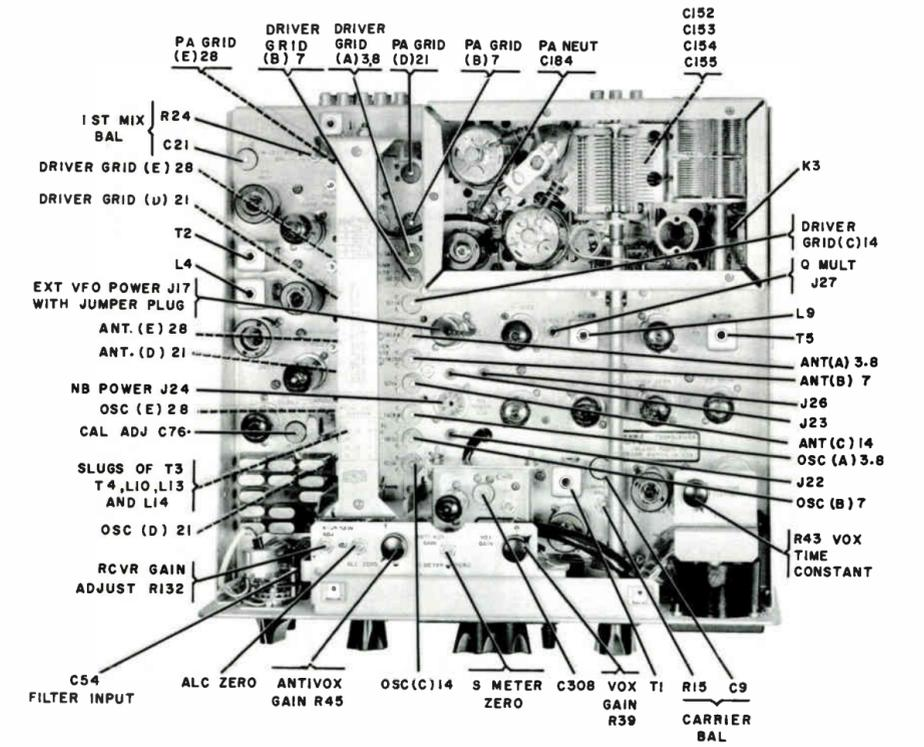

Figure 4-1. Location of Adjustments
Field alignment consists of a few simple adjustments and is intended as a means of restoring peak performance of a working KWM-2/2A. No alignment procedure should ever be performed just for the sake of alignment. Adjustments should be made only when there is reason to suspect that performance is not up to standard. All field alignment adjustment points can be reached by raising the cabinet lid, and the KWM-2/2A does not have to be removed from its cabinet. See figure 4-1 for adjustment locations.
b. After 5-minute warmup period, set EMISSION switch to TUNE and meter switch to GRID. Adjust MIC GAIN and EXCITER TUNING to produce mid-scale indication on meter. Set meter switch to PLATE, and dip plate current with P.A. TUNING. Reset meter switch to GRID. Peak the four (E)28 trimmer capacitors for maximum grid current. See figure 4-1 for trimmer locations.
c. Set BAND switch to 21.2 and tuning dial to 100. Adjust MIC GAIN and EXCITER TUNING for midscale grid current. Set meter switch to PLATE, and dip plate current. Reset meter switch to GRID. Peak the four (D)21 trimmer capacitors for maximum grid current.
d. Set BAND switch to 14.0 and tuning dial to 150. Adjust MIC GAIN and EXCITER TUNING for mid-scale grid current. Set meter switch to PLATE and dip plate current. Reset meter switch to GRID. Peak the four (C)14 trimmer capacitors for maximum grid current.
e. Set BAND switch to 7.0 and tuning dial to 150. Adjust MIC GAIN and EXCITER TUNING for mid-scale grid current. Set meter switch to PLATE, and dip plate current. Reset meter switch to GRID. Peak the four (B)7.0 trimmer capacitors for maximum grid current.
f. Set BAND switch to 3.6 and tuning dial to 100. Adjust MIC GAIN and EXCITER TUNING for mid-scale grid current. Set meter switch to PLATE, and dip plate current. Reset meter switch to GRID. Peak the four (A)3.5 trimmer capacitors for maximum grid current.